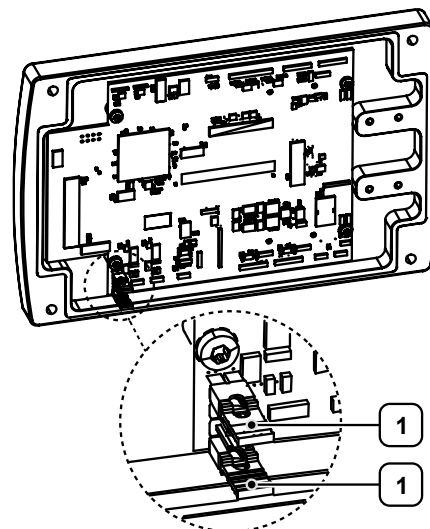

Figure 32: Setting jumpers (example)
- ▷ Insert the two jumpers into the corresponding positions on the main circuit board (see "→ Figure 32: Setting jumpers (example)").